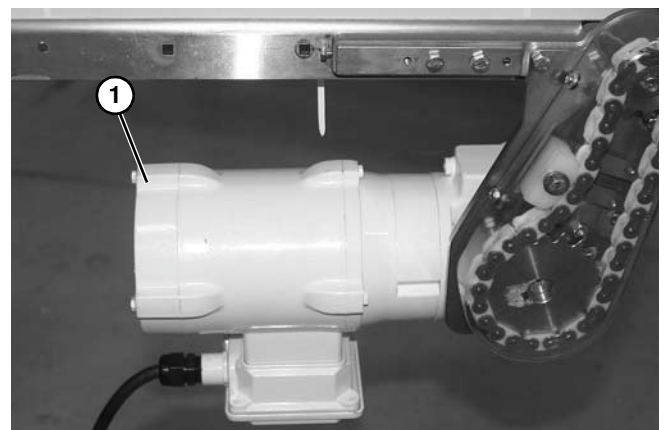

Figure 51
4. Remove drive package (**Figure 51, item 1**). See Gearmotor Mounting Packages manual 851-968 for details.